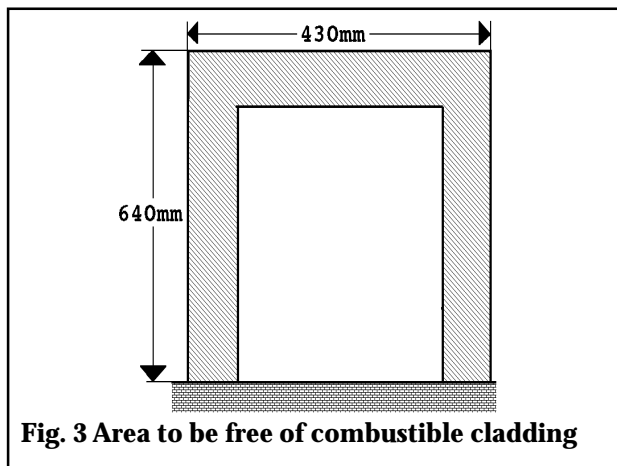

Fig. 3 Area to be free of combustible cladding
2.7. If the fire is to be fitted against walls with combustible cladding, the cladding must be removed from the area shown in fig.3.